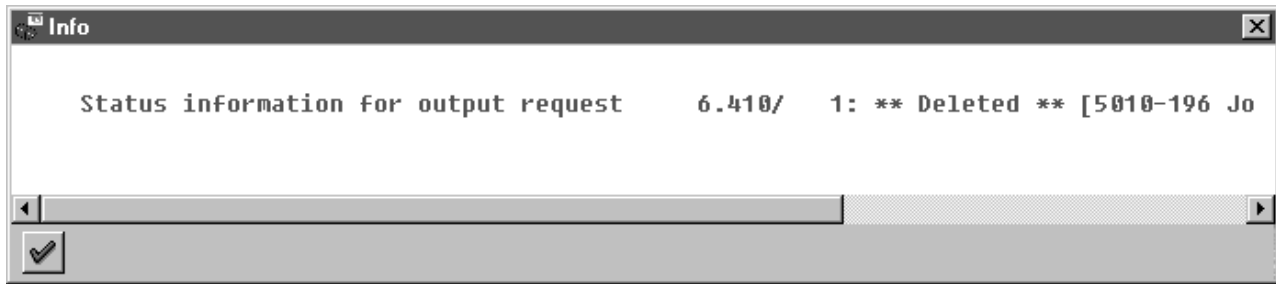
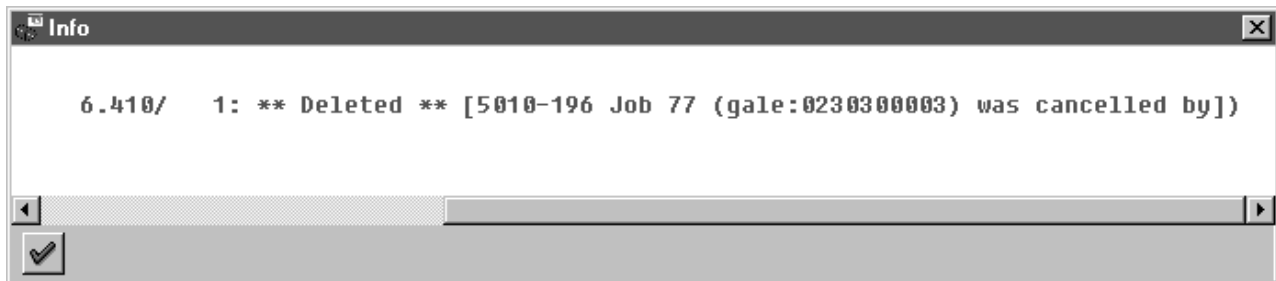

Figure 23. Info window showing cancelled output request: right-most text.
Figure 24. Info window showing cancelled output request: left-most text.
6. Once you have specified this setting, information from the Infoprint Manager sent back to your SAP R/3 application server will be delivered in the form of a pop-up window. For example, if an output request was canceled, a pop-up **Info** window like Figure 23 on page 53 and Figure 24 on page 53 should appear on the output requesters' SAPGUI.